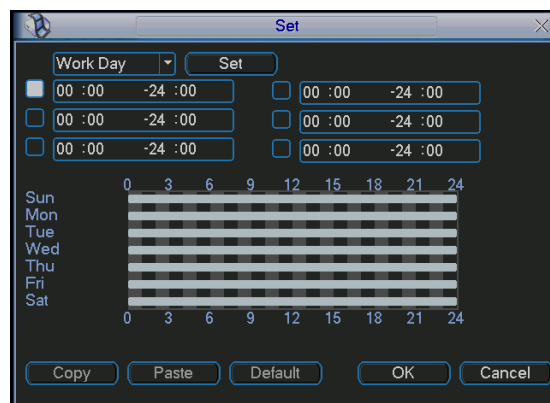
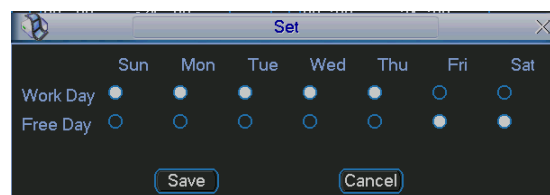

Figure 3-38
Figure 3-39
- Period: Click set button, you can see an interface is shown as in Figure 3-38. Here you can set for business day and non-business day. In Figure 3-38, click set button, you can see an interface is shown as in Figure 3-39. Here you can set your own setup for business day and non-business day.